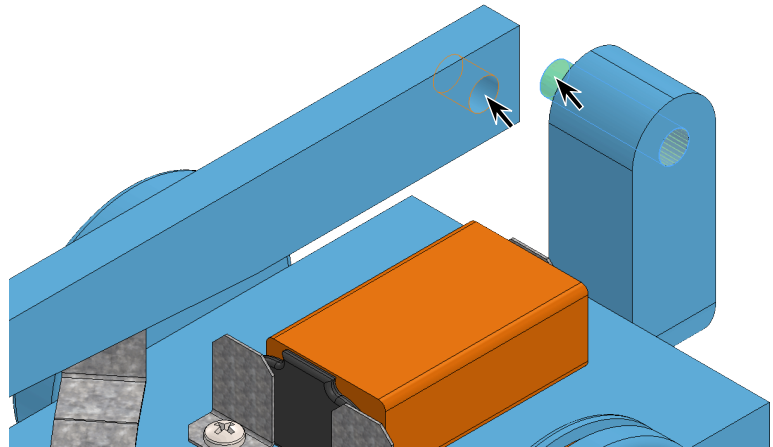

Fig. 16
Step 9. Grab the Cross Support and move away from Axle, then click **cylindrical face of Axle** and **cylindrical face of hole in Cross Support**, Fig. 16.